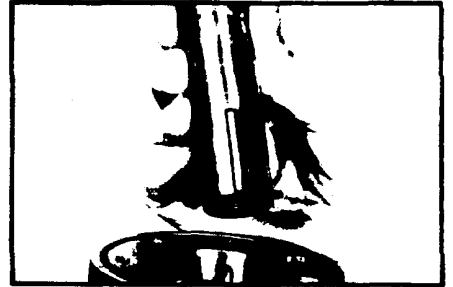

Figure 42
11. Be sure that a generous amount of clean wheel bearing grease is applied to housing bearing (19) then install coupling shaft (11) into housing (15) seating it against thrust washer (13). SEE FIGURE 42. The coupling shaft must rotate smoothly on the thrust bearing package.